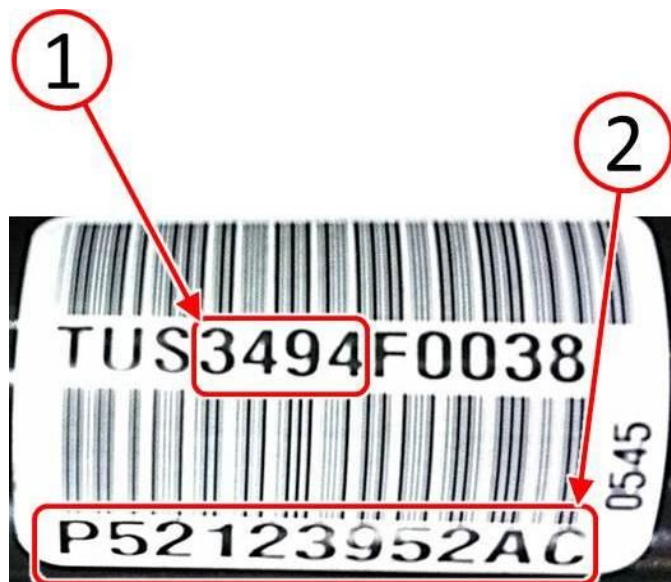

Fig. 2 Identification Label Information
2. ****Inspect the affected date code range (1) on both axle shaft identification labels (Fig. 2).****